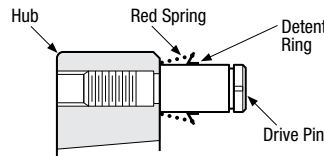

Figure 2
3. Place the detent retainer over the pin. The cupped-out portion should be against the spring. (Figure 2)
4. Place the detent ring on the pin and press it into the recessed portion of the detent retainer. (Figure 2)